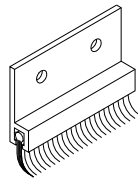

Figure 32:
8. Optional: After all panels have been adjusted plumb and level and panels close and lock, open panels and install brush air barriers. Brush air barriers (Figure 32) are attached to the bottom of all sliding interlockers and secured with (2) #6 x 3/8" long, TEK screws.